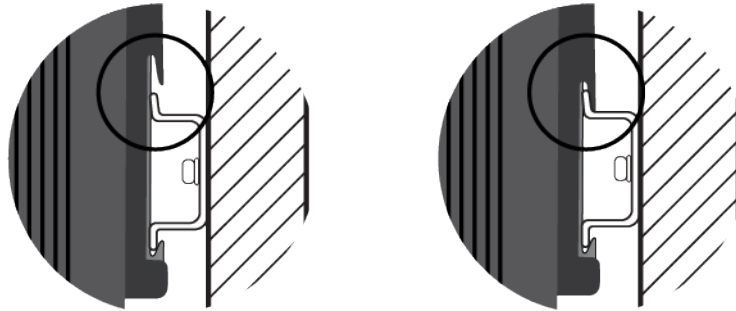

Figure 25. Installing the Switch on a DIN Rail - 3
- Carefully lower the switch until that the top flange on the DIN rail fits into the top slot of the DIN rail bracket. Refer to Figure 25.